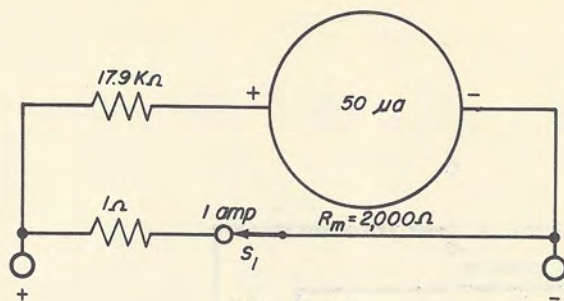

Fig. 11-11
Step 6. On your schematic diagram, draw a 1-ohm shunt. This is the shunt for the 1-ampere range of the ammeter portion of your multimeter, as you learned from your calculations in Step 1. Your drawing should now look like Fig. 11-11.